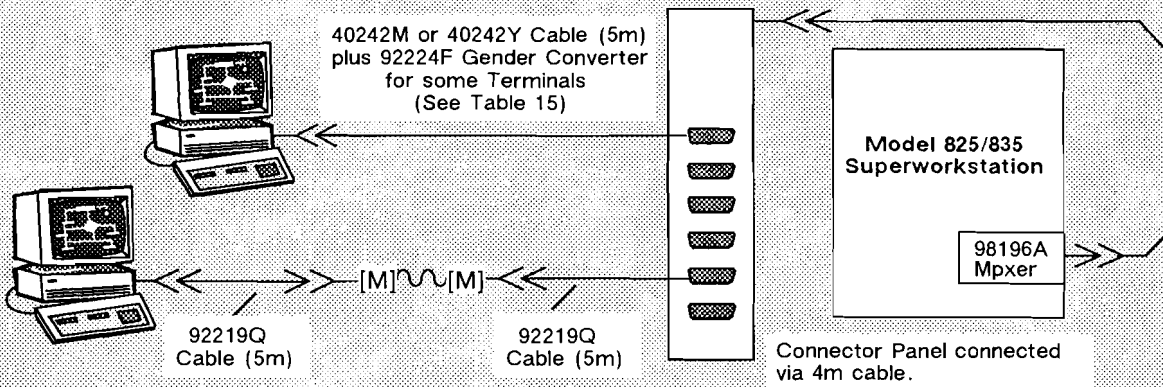

Figure 88. Display Terminal RS-232C Connections to Series 300 SPU_s and Workstations and Model 825/835 Superworkstations
- Display Terminals and PCs (see Table 15, page 130, and Figures 88 and 89, pages 131 and 132).
Series 300 SPUs and Workstations and Model 825 and 835 Superworkstations connect to display terminals and PCs via RS-232C interfaces as shown in Figure 88, page 131, and cables as summarized in Table 15, next page. The Series 300 system console can connect to any of the single-port RS-232C interfaces, but must connect to Port 0 of the 98642A four-port multiplexer. A display terminal used as system console in a Model 825 or 835 Superworkstation uses one of the six multiplexer ports and the optional access port uses another. No single-port RS-232C interface is available for Model 825 or 835 Superworkstations.